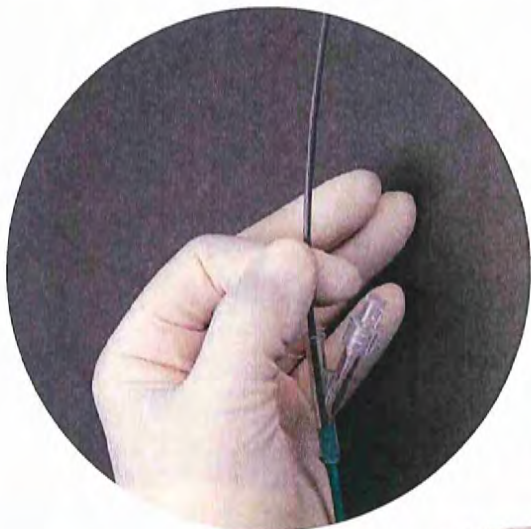

Figure D-7b
- Pinch (hold) the Gray Control Catheter with the left thumb and forefinger to hold Occluder in position (Fig. D-7b, next page).